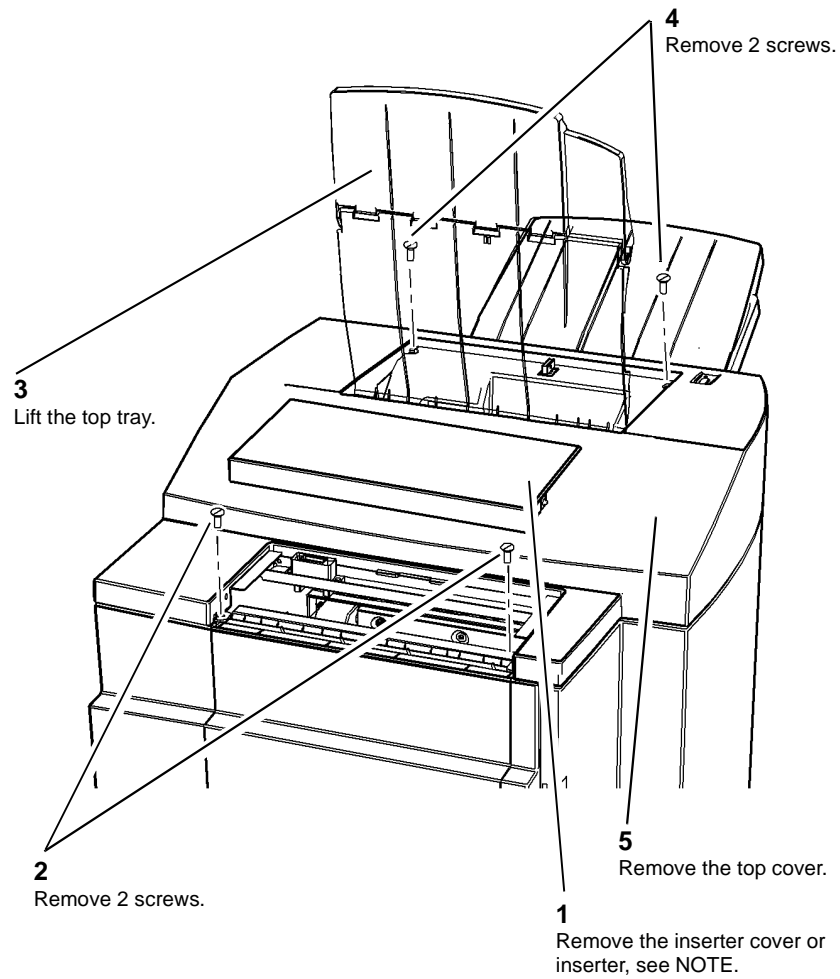

Figure 2 Top cover removal
2. Remove the top cover, Figure 2.